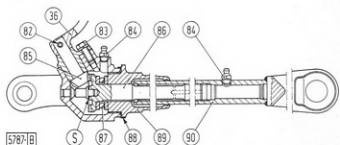

Fig. 268 - Section through R.H. Lift Arm Assembly
Moreover, R.H. lift arm driven gear (86, Fig. 268) has been modified to make room for a thrust bearing (87).